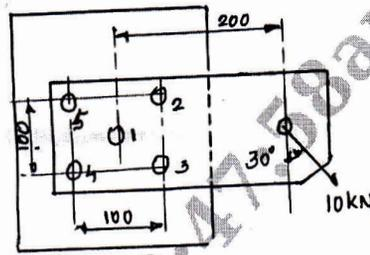

Fig. Q7 (b)
- b. Determine the size of rivets required for the bracket shown in Fig. Q7 (b). Take permissible shear stress for the rivet material as 100 MPa. (10 Marks)